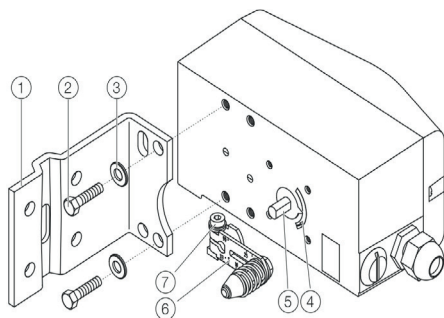
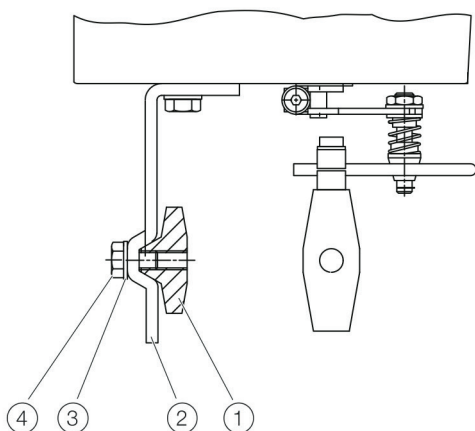

Fig. 3
Fig. 4
Set the valve mid stroke and align the lever horizontal (item 6 fig. 3).
Then tighten mounting bolt (item 4 fig. 4) (lever moves between the arrow marks item 4 fig. 3).